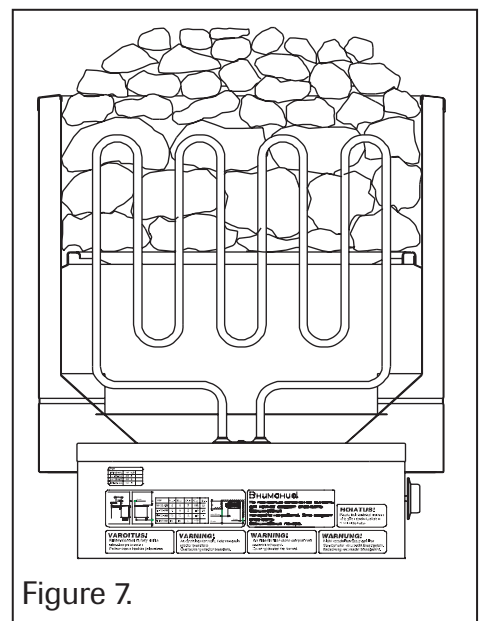

Figure 7.
- The stones must completely cover the heating resistors (Figure 7).